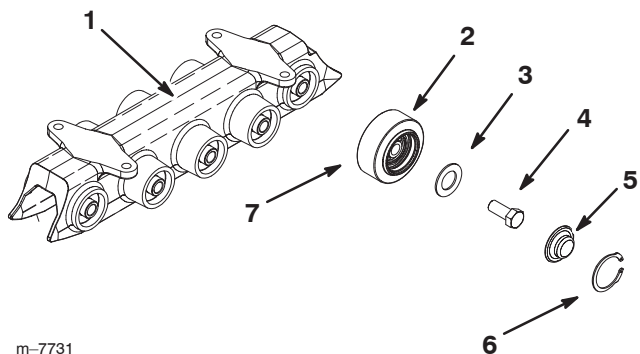

Figure 2
1. Assemble the new track guide and wheels as shown in Figure 2.
2. Add grease between the bearing and the seal behind the wheel (Fig 2).
3. Install the new road wheel onto the track guide using the gasket in the kit and a new bolt (5/8 x 1-1/2 inch) as shown in Fig. 2.
5. Fill the road wheel cap with grease and place it over the bolt head (Fig 2).
6. Secure the road wheel cap with a snap ring (Fig 2).